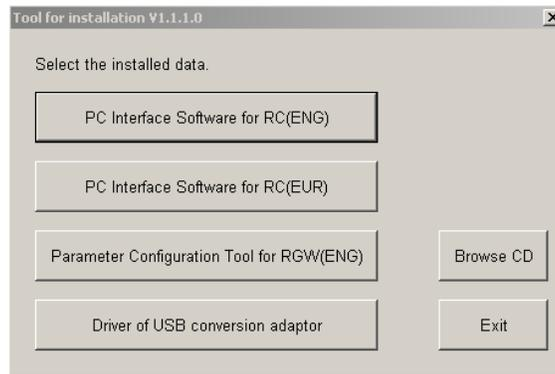

Fig. 1.1 Installed Data Selection Window
- [2] The installed data selection window (Fig. 1.1) will be displayed.
- \* What to do when the Installed Data Selection window (Fig. 1.1) does not appear
If the Installed Data Selection window (Fig. 1.1) does not appear after inserting the CD-ROM, follow the procedure below to display the Installed Data Selection window.
- b. Double-click  among the icons displayed. The Installed Data Selection window (Fig. 1.1) will appear.